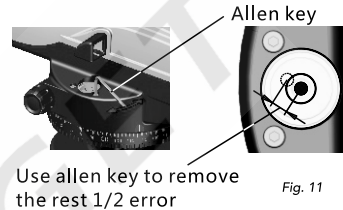

Fig. 11
- Adjust the rest half of error by using the allen key (fig. 11).